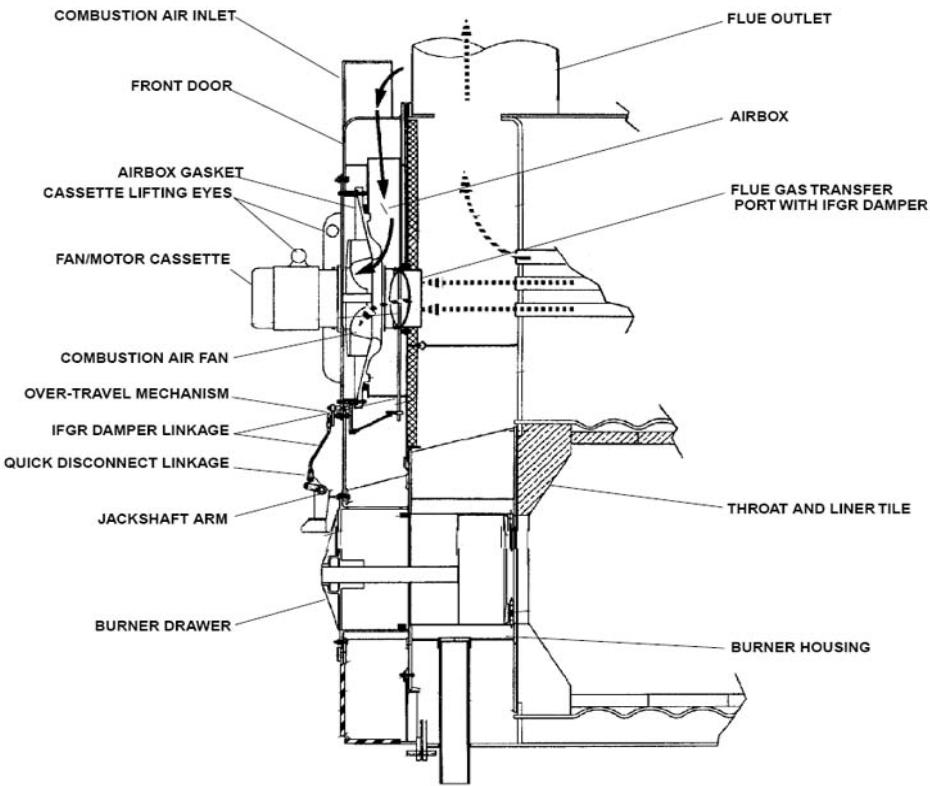

FIGURE 8-8. Induced Flue Gas Recirculation System (IFGR)
8. Lightly coat the stem with the lubricant provided with the packing kit. Place the new packing, O-rings and guides onto the stem in the sequence shown in Figure 8-8. The beveled face of the guides and the teflon rings must face upward, with the exception of the upper brass guide which is facing down. Be sure that the O-rings are properly located.